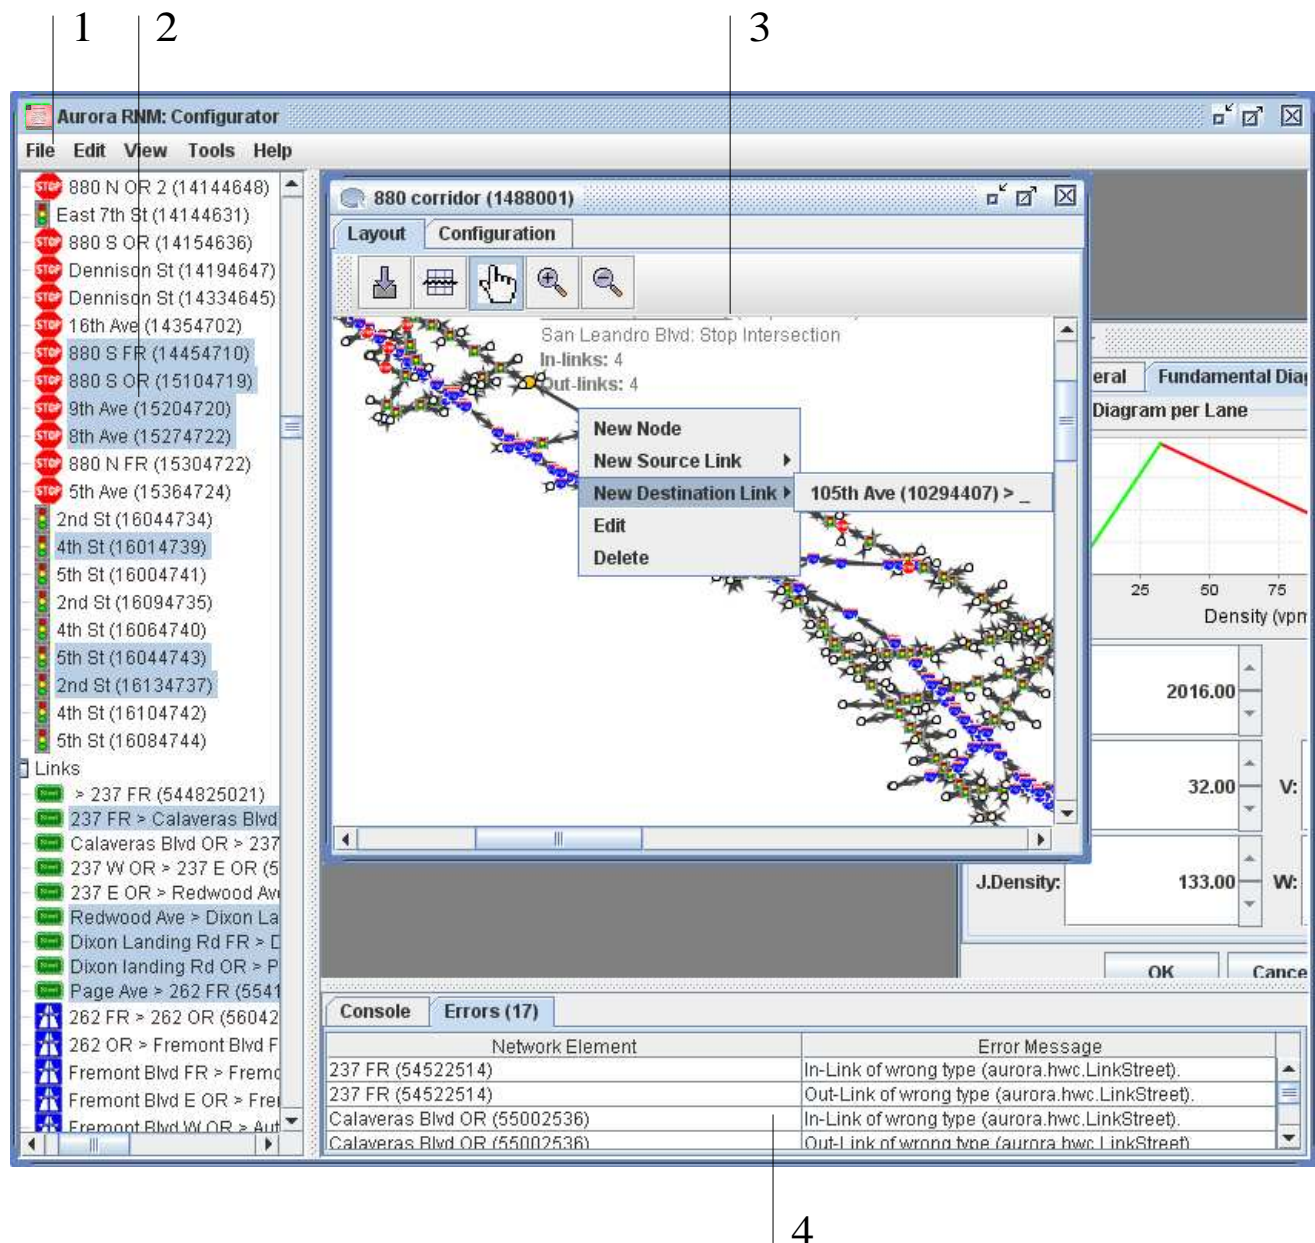

Figure 6-1: Aurora Configurator – look and feel.
Run the Aurora Configurator by selecting **Start** → **All Programs** → **TOPL** → **Aurora** → **Configurator**. Figure 6-1 presents the face of the Configurator. The application window is partitioned into 4 areas.
- **Validate** – checks the validity of the configuration and display a modal information window with the results. Configuration errors if any are listed in the error frame (Figure 6-1#5). This command is enabled only if a configuration is loaded.
- Click **OK**. The new node of given type will be created and displayed on the map (Figure 6-2a) and in the node list in the network tree (Figure 6-1#2).